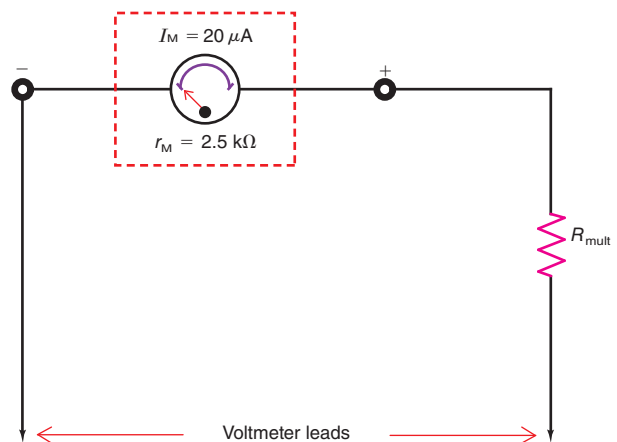

Figure 12-23
- 12.6 Calculate the required multiplier resistance, R_{mult} , in Fig. 12-23 for each of the following voltage ranges: (a) 3 V; (b) 100 V.